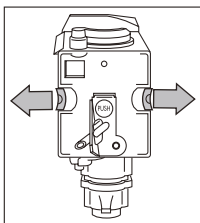

Fig. 44
- Once inserted, make sure the two red buttons have snapped out (Fig. 44)